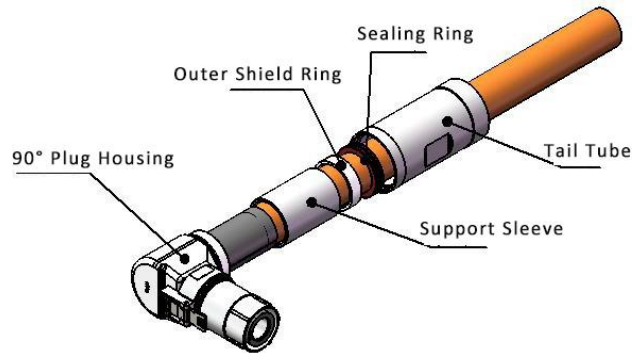

Fig. 14
4.2.3. Then the insulation protective cover 1 and insulation protective cover 2 are installed on the terminal, as shown in Fig.14.